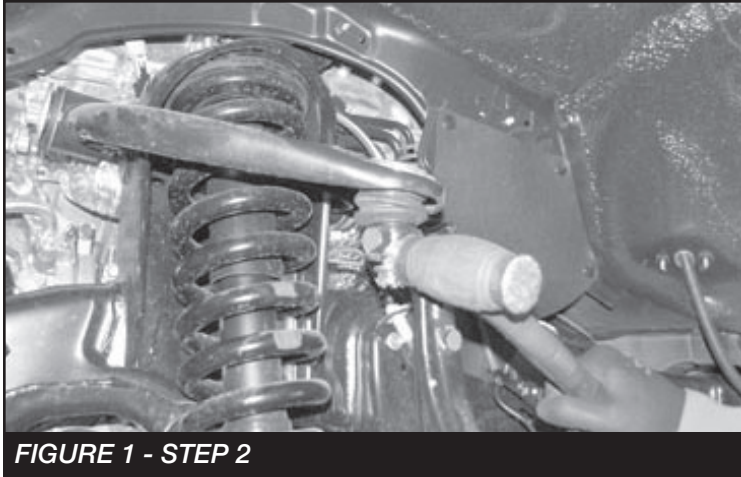

FIGURE 1 - STEP 2
2. Remove the upper ball joint nut. Disconnect the upper ball joint from the steering knuckle by striking the knuckle with a large hammer next to the ball joint on the knuckle to dislodge the ball joint. Use care not to hit the ball joint when removing. Save nut. Secure the knuckle so its not hanging. **SEE FIGURE 1**